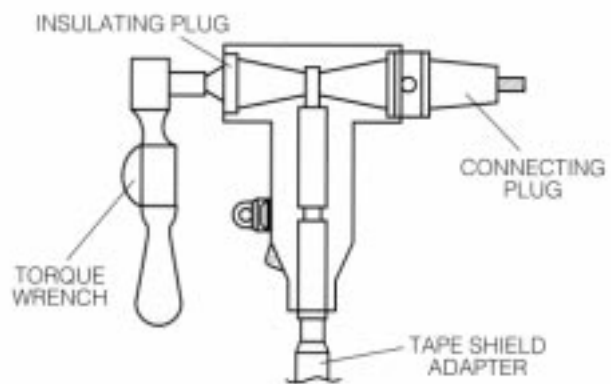

Figure 21.
- Begin by inserting an insulating plug into a T-Body, lining up hole in compression connector with stud on plug. (Refer to Figure 21.)